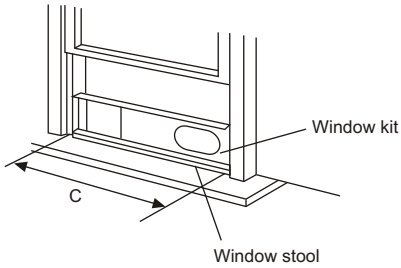

Fig.9
2. Attach the window slider kit to the window stool. Adjust the length of the window slider kit according to the width of window, shorten the adjustable window kit if the width of window is less than 26.5 (Type I) or 22.1 (Type II) inches. Open the window sash and place the window slider kit on the window stool. Fig.9